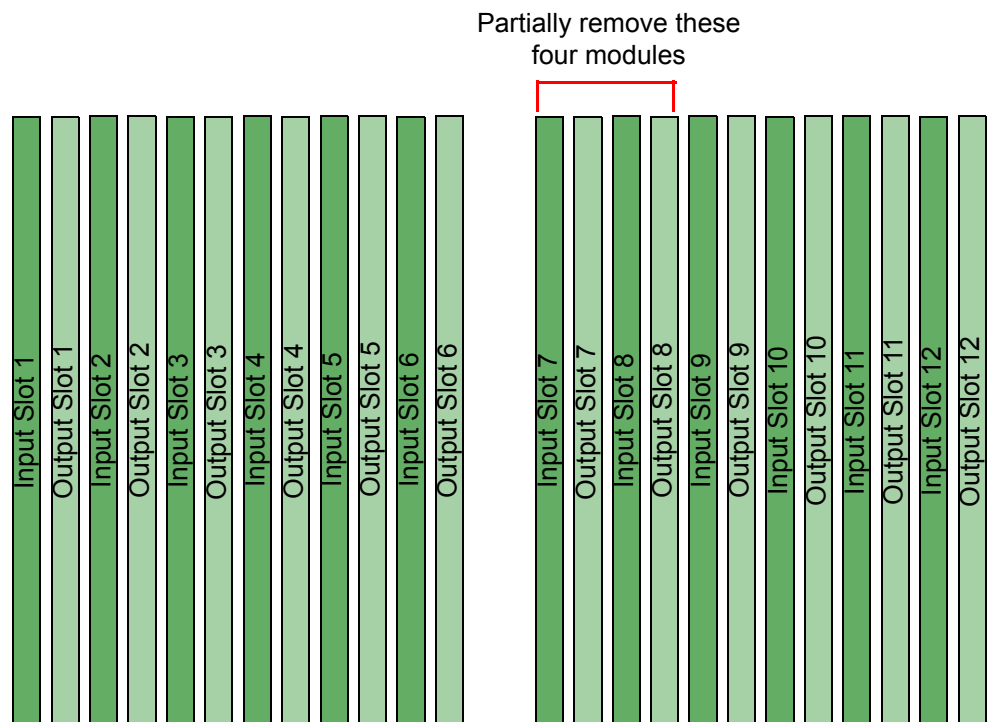

Figure 20 Sirius 830 Input and Output Module Locations (Front View)
2. Partially remove any modules fitted in the slots indicated in Figure 20 They only need to be pulled out approximately 25 mm (1”) to allow the rears to be removed. See section 5.3 for details on removing modules: